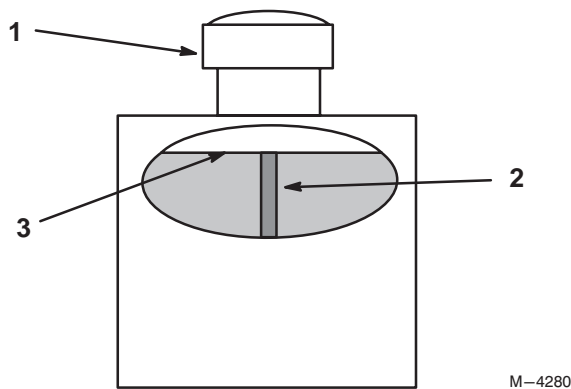

Figure 9
2. Clean area around filler neck of hydraulic tank (Fig. 9).
3. Remove cap from filler neck. Look inside to check if there is fluid in the reservoir (Fig. 9).
Note: Fluid level should be to the top of the baffle when fluid is warm (Fig. 9).